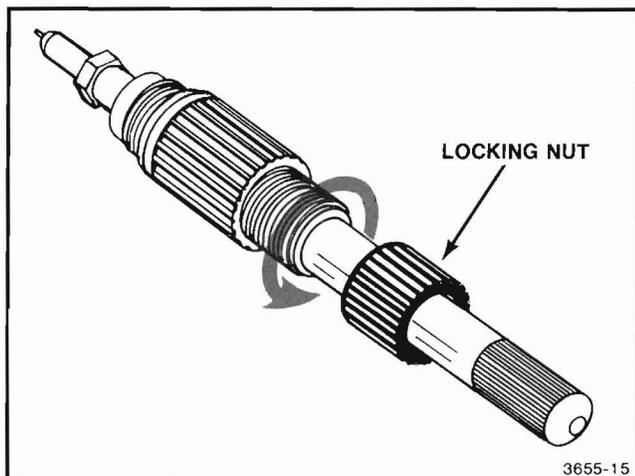

Figure 4-14. Removing the Wet-Ink Pen Locking Nut.
1. **Unscrew** and remove the locking nut using light finger pressure. See Figure 4-14.